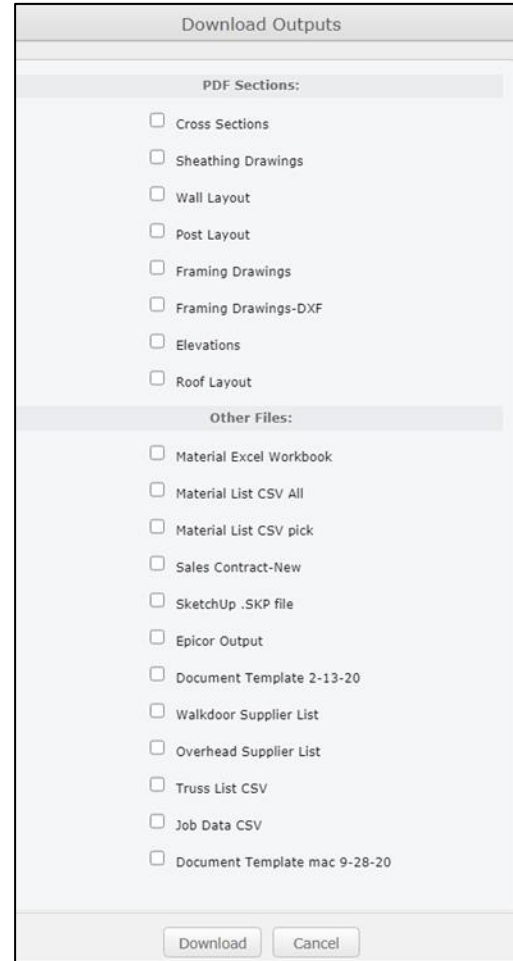

Figure 15: The Outputs dialog box.
- **Outputs** – Clicking on the `Outputs` button opens the *Download Outputs* dialog box, like the one pictured in Figure 15 at right. Note that the specific outputs available will vary by company. All `Outputs` for a job are available immediately once SmartBuild has generated a 3D model.